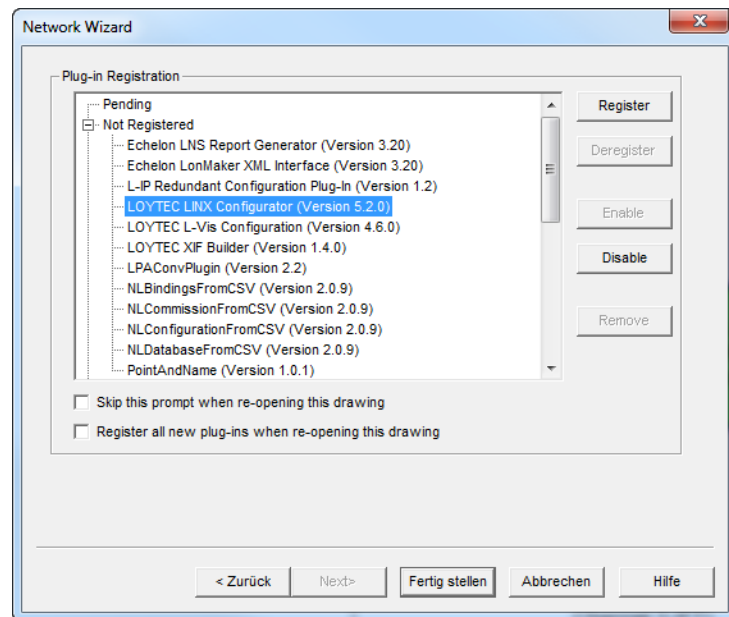

Figure 139: Select the Plug-in to be registered.
2. Click **Next** until the plug-in registration tab appears in the Network Wizard. Select the **LOYTEC LINX Configurator (Version X.Y)** from the list of **Not Registered** (see Figure 139).